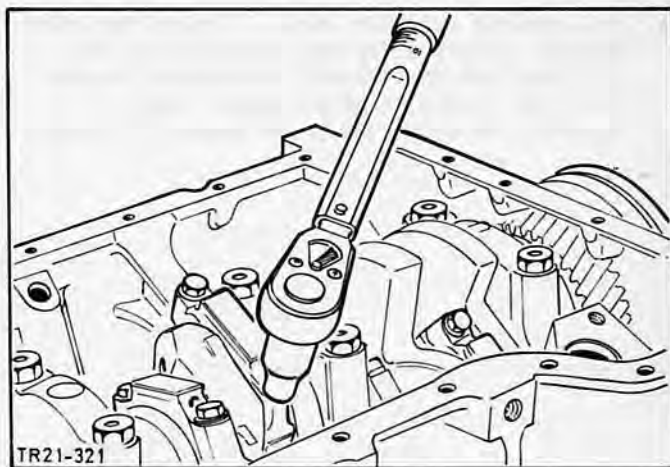

Fig.61. Torque bolts of big end bearing cap.
51. Fit big end bearing cap complete with oiled bearing shell. Tighten bolts to the specified torque, Fig.61.